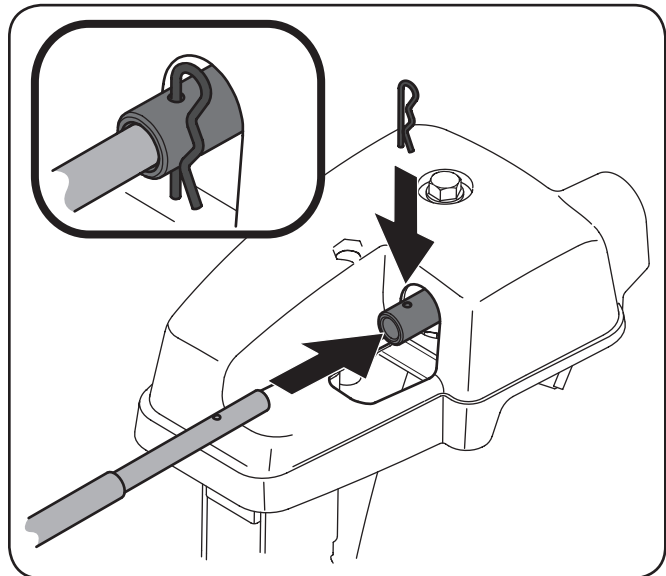

**Figure 3-7**
5. Insert flex shaft into rear of the chute directional control head. Secure the flex shaft to the chute control head with the hairpin clip removed earlier. See Figure 3-7.